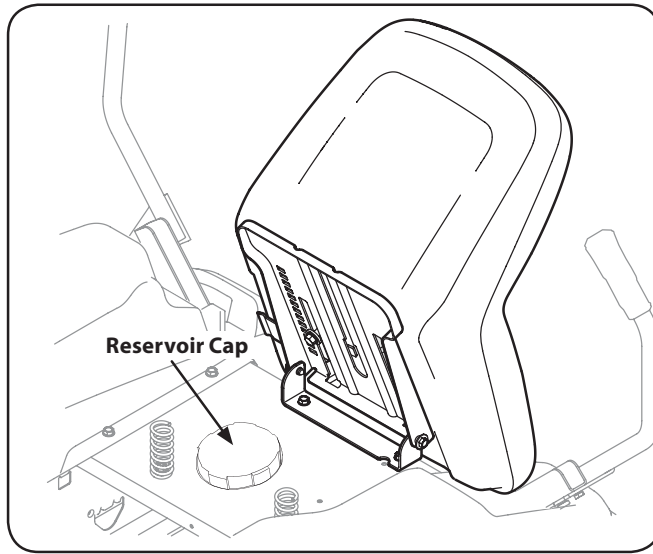

Figure 6-2
1. Pivot the operator's seat forward and clean the reservoir cap and the area around the cap to prevent debris from contaminating the transmission oil. See Fig. 6-2.